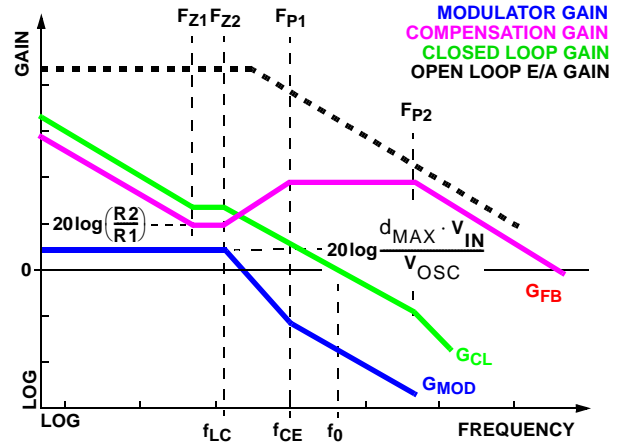

FIGURE 10. ASYMPTOTIC BODE PLOT OF CONVERTER GAIN
Figure 10 shows an asymptotic plot of the DC/DC converter's gain vs frequency. The actual modulator gain has a high gain peak dependent on the quality factor (Q) of the output filter, which is not shown. Using the above guidelines should yield a compensation gain similar to the curve plotted. The open loop error amplifier gain bounds the compensation gain. Check the compensation gain at  $F_{P2}$  against the capabilities of the error amplifier. The closed loop gain,  $G_{CL}$ , is constructed on the log-log graph of Figure 10 by adding the modulator gain,  $G_{MOD}$  (in dB), to the feedback compensation gain,  $G_{FB}$  (in dB). This is equivalent to multiplying the modulator transfer function and the compensation transfer function and then plotting the resulting gain.